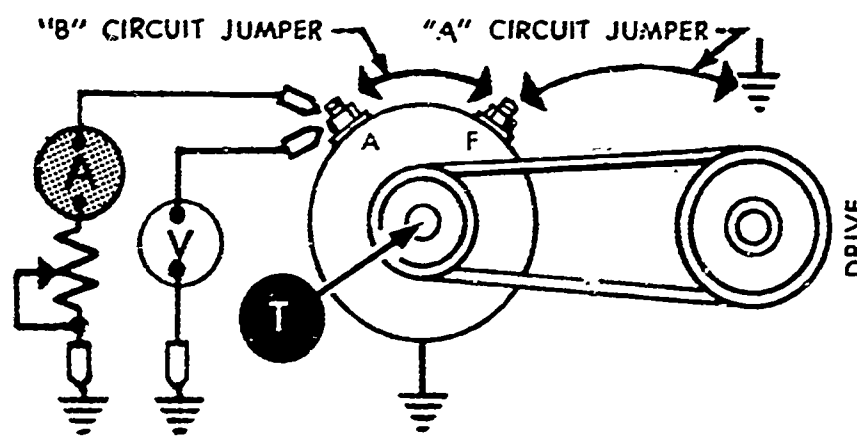

Fig. 8 Test meter connections
The generator, meters and resistance should be hooked up as shown in Figure 8. An "A" circuit generator has the (F) terminal grounded by a jumper lead to complete the field circuit. A "B" circuit generator has the (F) terminal connected to the (A) terminal by a jumper lead to complete the field circuit.
will increase generator voltage, whereas decreasing the resistance in the load circuit will decrease generator voltage. Measure the voltage by attaching the voltmeter in the position shown in Figure 8. Increase generator speed until the current flow of the circuit is that which is specified. Measure the current flow with the ammeter attached in the position shown. Recheck the voltage reading to make sure that it is the same as specified.